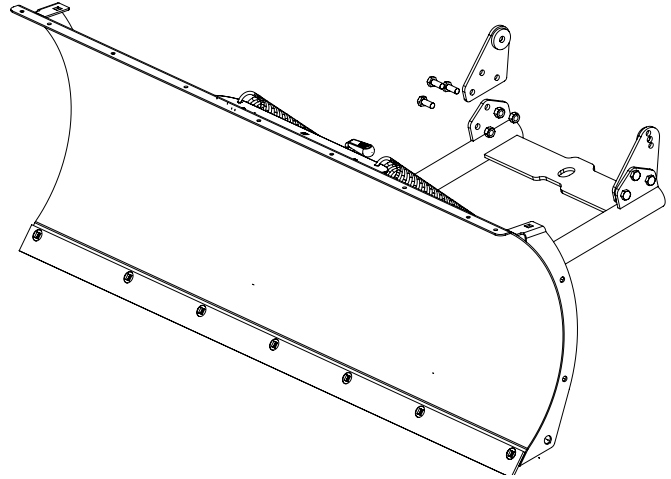

Figure 1
2. Remove flanges from push tube. See Figure 1.